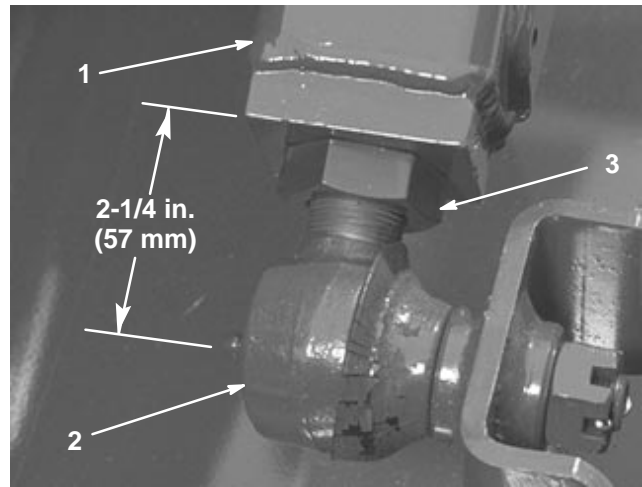

Figure 4
2. Measure the distance from the end of each lift arm to the center of the ball joint (grease fitting). The distance should be 2-1/4 in. (57 mm) (Fig. 4). If distance is not 2-1/4 in. (57 mm), loosen the jam nut securing the ball joint to the lift arm and rotate the ball joint in or out until the distance is attained. Do not tighten the jam nuts at this time.